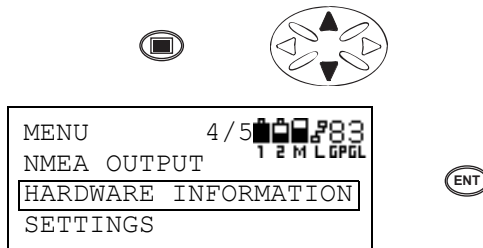

Figure 3-127. Initiate Menu Mode, Scroll to Hardware Information, Press Enter
1. Press the **menu** key to enter the menu mode. Press the **up/down cursor key** to select HARDWARE INFORMATION and press **ENT** (Figure 3-127).